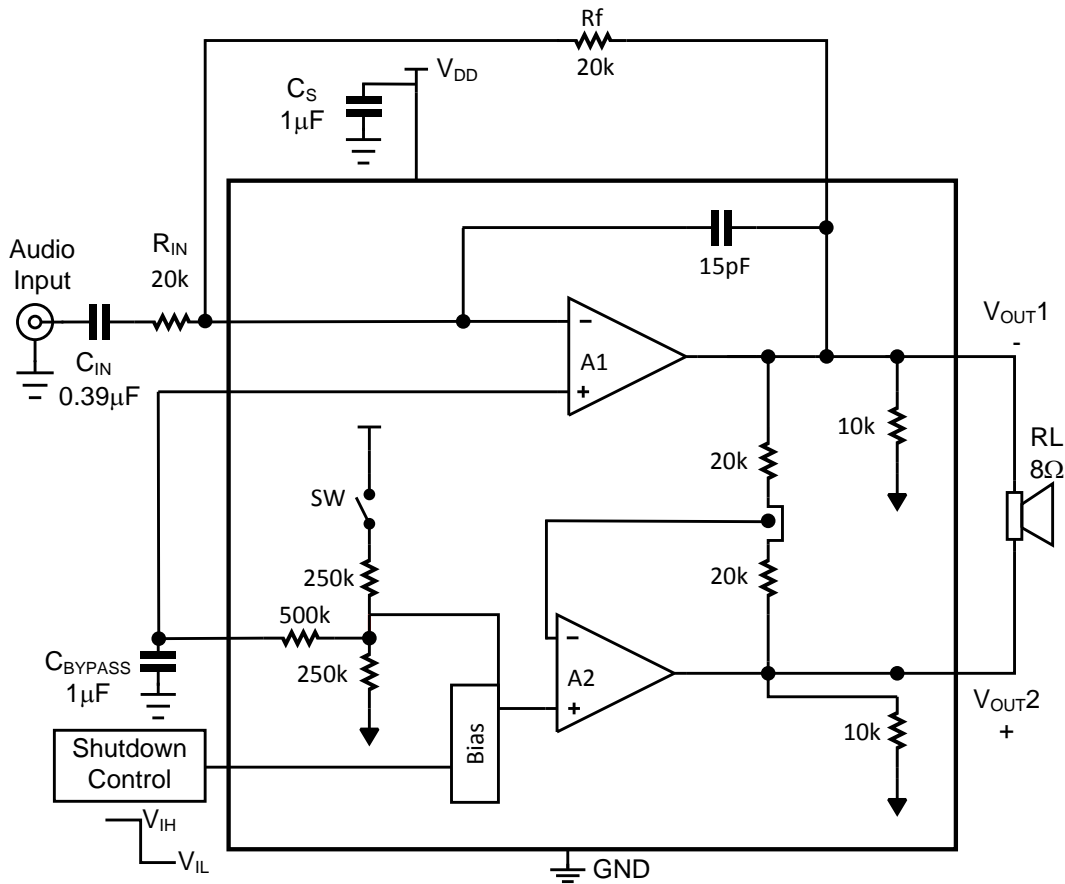

Figure 7. Typical Audio Amplifier Application Circuit
The following specifications apply for the circuit shown in Figure 7 unless otherwise specified. Limits apply for $T_A = 25^\circ C$.
- (1) All voltages are measured with respect to the ground pin, unless otherwise specified.
- (2) *Absolute Maximum Ratings* indicate limits beyond which damage to the device may occur. *Operating Ratings* indicate conditions for which the device is functional, but do not ensure specific performance limits. *Electrical Characteristics* state DC and AC electrical specifications under particular test conditions which ensure specific performance limits. This assumes that the device is within the Operating Ratings. Specifications are not ensured for parameters where no limit is given, however, the typical value is a good indication of device performance.
- (3) For DSBGA only, shutdown current is measured in a Normal Room Environment. Exposure to direct sunlight will increase I_{SD} by a maximum of 2 μA .
- (4) Typicals are measured at 25 $^\circ C$ and represent the parametric norm.
- (5) Limits are specified to TI's AOQL (Average Outgoing Quality Level).
- (6) Datasheet min/max specification limits are specified by design, test, or statistical analysis.
- (7) ROUT is measured from each of the output pins to ground. This value represents the parallel combination of the 10k ohm output resistors and the two 20k ohm resistors.
- (8) PSRR is a function of system gain. Specifications apply to the circuit in Figure 7 where $A_V = 2$. Higher system gains will reduce PSRR value by the amount of gain increase. A system gain of 10 represents a gain increase of 14dB. PSRR will be reduced by 14dB and applies to all operating voltages.
The following specifications apply for the circuit shown in Figure 7 unless otherwise specified. Limits apply for $T_A = 25^\circ\text{C}$.
(7) R_{OUT} is measured from each of the output pins to ground. This value represents the parallel combination of the 10k ohm output resistors and the two 20k ohm resistors.
(8) PSRR is a function of system gain. Specifications apply to the circuit in Figure 7 where $A_V = 2$. Higher system gains will reduce PSRR value by the amount of gain increase. A system gain of 10 represents a gain increase of 14dB. PSRR will be reduced by 14dB and applies to all operating voltages.
(1) All voltages are measured with respect to the ground pin, unless otherwise specified.
(3) For DSBGA only, shutdown current is measured in a Normal Room Environment. Exposure to direct sunlight will increase I_{SD} by a maximum of 2 μA .
(4) Typical values are measured at 25°C and represent the parametric norm.
(5) Limits are specified to TI's AOQL (Average Outgoing Quality Level).
(6) Datasheet min/max specification limits are specified by design, test, or statistical analysis.
(7) PSRR is a function of system gain. Specifications apply to the circuit in Figure 7 where $A_V = 2$. Higher system gains will reduce PSRR value by the amount of gain increase. A system gain of 10 represents a gain increase of 14dB. PSRR will be reduced by 14dB and applies to all operating voltages.